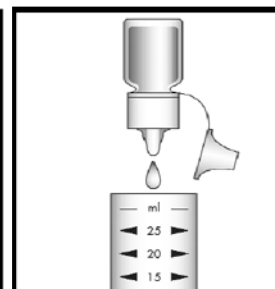

Figure 2
2. Add 4 drops of the A-1404 Stabilizer Solution (Fig. 2)
3. Add 4 drops of A-1405 Catalyzer Solution (green). (Fig. 2)
4. Add 4 drops of A-1406 Activator Solution (blue). (Fig. 2)